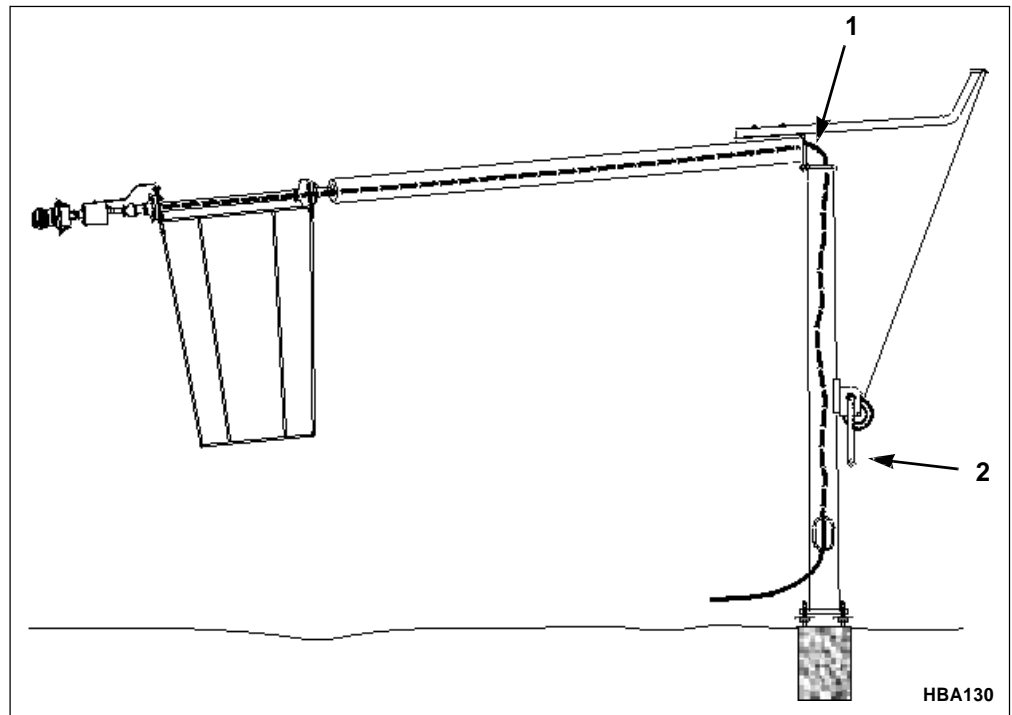

Figure 20. Lowering the Basket
1. Remove the four hinge bolts from the hinge at the center of the pole, see Figure 20 on page 40.
2. Using the winch slowly crank the pole down. Lower the pole to an easy working height, see Figure 20 on page 40.